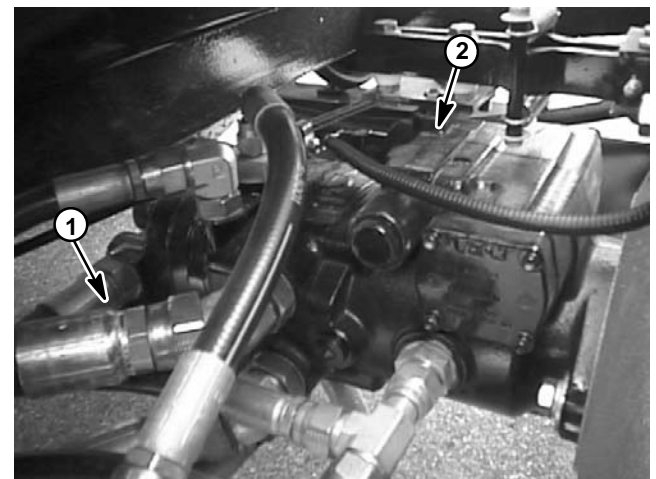

Figure 21
7. Disconnect hose from the upper hydraulic fitting on the right side of the piston (traction) pump (Fig. 21).